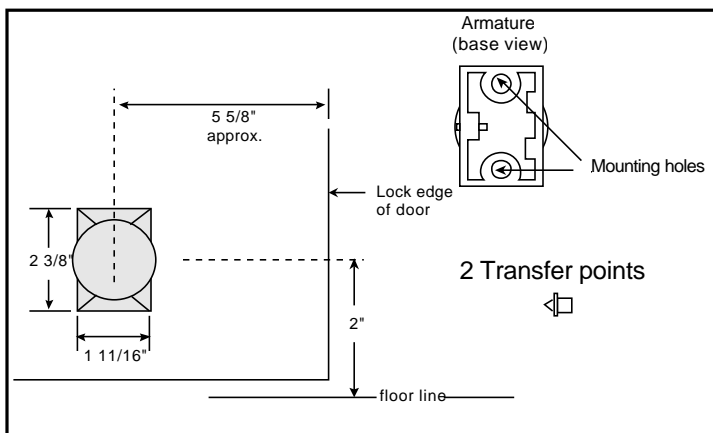

Figure 5. Armature Mounting
NOTE: Armature assembly must be mounted vertically (Figure 5) to obtain correct alignment with the electromagnet.
- Place the transfer marking points in the armature mounting holes (Figure 5).